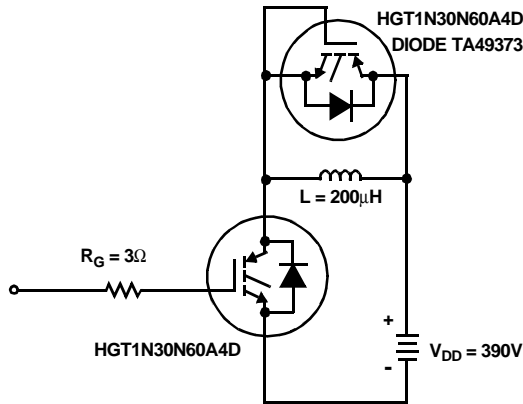

Figure 24. Inductive Switching Test Circuit
2. Values for two Turn-On loss conditions are shown for the convenience of the circuit designer. E_{ON1} is the turn-on loss of the IGBT only. E_{ON2} is the turn-on loss when a typical diode is used in the test circuit and the diode is at the same T_J as the IGBT. The diode type is specified in figure 24.